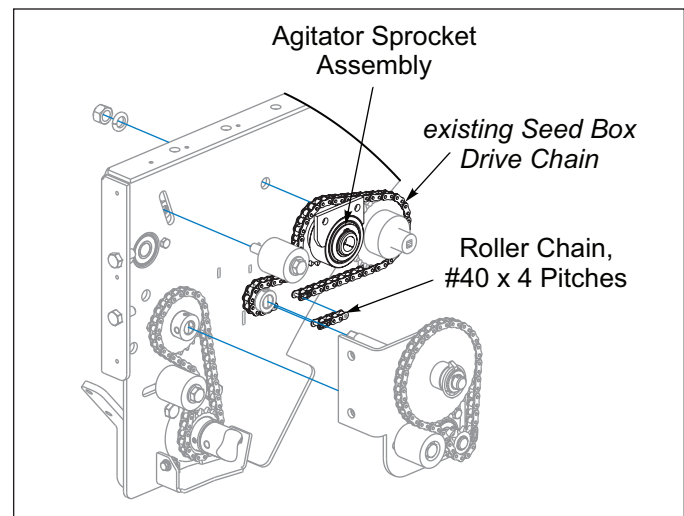

Figure 2-3: Double Seed Box Drive Chain
8. Add the #40 x 4 Pitches Roller Chain to the existing Seed Box Drive Chain. Install the chain. **See Figure 2-3.**